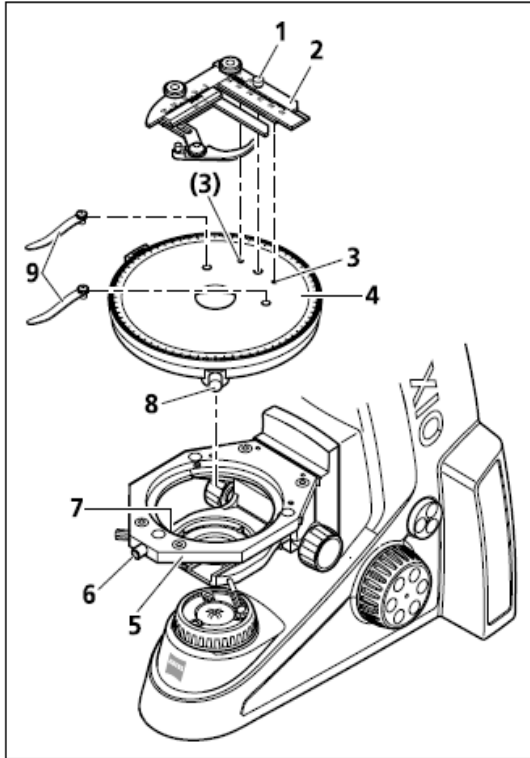

图. 3-12 安装旋转偏光载物台,偏光样品夹或常规样品夹
- Loosen screw cap (Fig. 3-12/6) from the spring housing (about three rotations).
- Press rotary stage Pol (Fig. 3-12/4) to the front against spring-loaded pin (Fig. 3-12/7), lift it off the stage carrier (Fig. 3-12/5) from the back and remove it upwards.
- Re-tighten screw cap (Fig. 3-12/6).
- I Where necessary, loosen screw cap (Fig. 3-12/6) of spring housing with approx. three rotations.
- I Place rotary stage Pol with the groove of the dovetail (stage bottom) on spring-loaded pin (Fig. 3-12/7).
- I Attach the rotary stage with the clamp screw (Fig. 3-12/8) pointing to the front right.
- I Press the rotary stage Pol to the front against the spring-loaded pin and lower it towards the back into the stage carrier (Fig. 3-12/5), then release it.
- I Re-tighten screw cap (Fig. 3-12/6).
- I Loosen the knurled screw (Fig. 3-12/1) on the specimen guide Pol. Withdraw the specimen guide Pol (Fig. 3-12/2) upwards.
- I Insert the stage clips (Fig. 3-12/9) into the holes provided.
- I Remove the stage clips (Fig. 3-12/9) from the rotary stage Pol.
- I Insert the specimen guide Pol (Fig. 3-12/2) with the two cylindrical pins on the underside into the holes provided (Fig. 3-12/3) and tighten the clamp screw (Fig. 3-12/1).